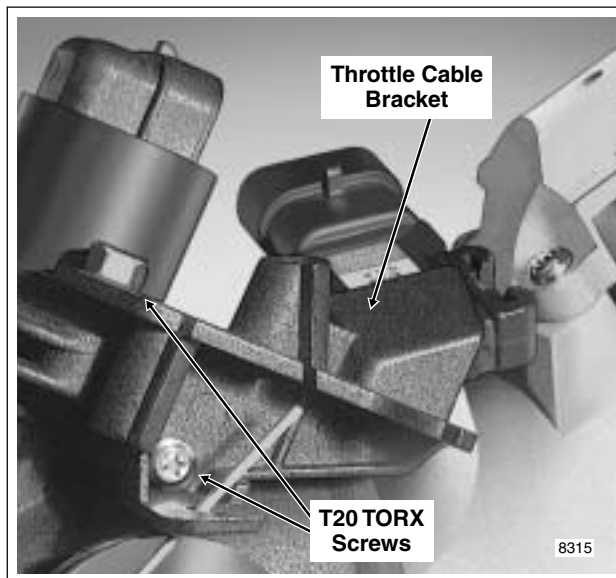

Figure 9-34. Remove Screws to Release Bracket
- Using a T20 TORX drive head, remove two screws to release throttle cable bracket from induction module. See Figure 9-34. Discard idle air control flange screw.
- Align hole in throttle cable bracket with hole at side of induction module. Start screw into induction module. See Figure 9-34.
- Move free end of throttle return spring into slot in throttle cable bracket. See Figure 9-34.
2. Using a T20 TORX drive head, remove two screws to release throttle cable bracket from induction module. See Figure 9-34. Discard flange screw of idle air control.
3. Align hole in throttle cable bracket with hole at side of induction module. Start screw into induction module. See Figure 9-34.